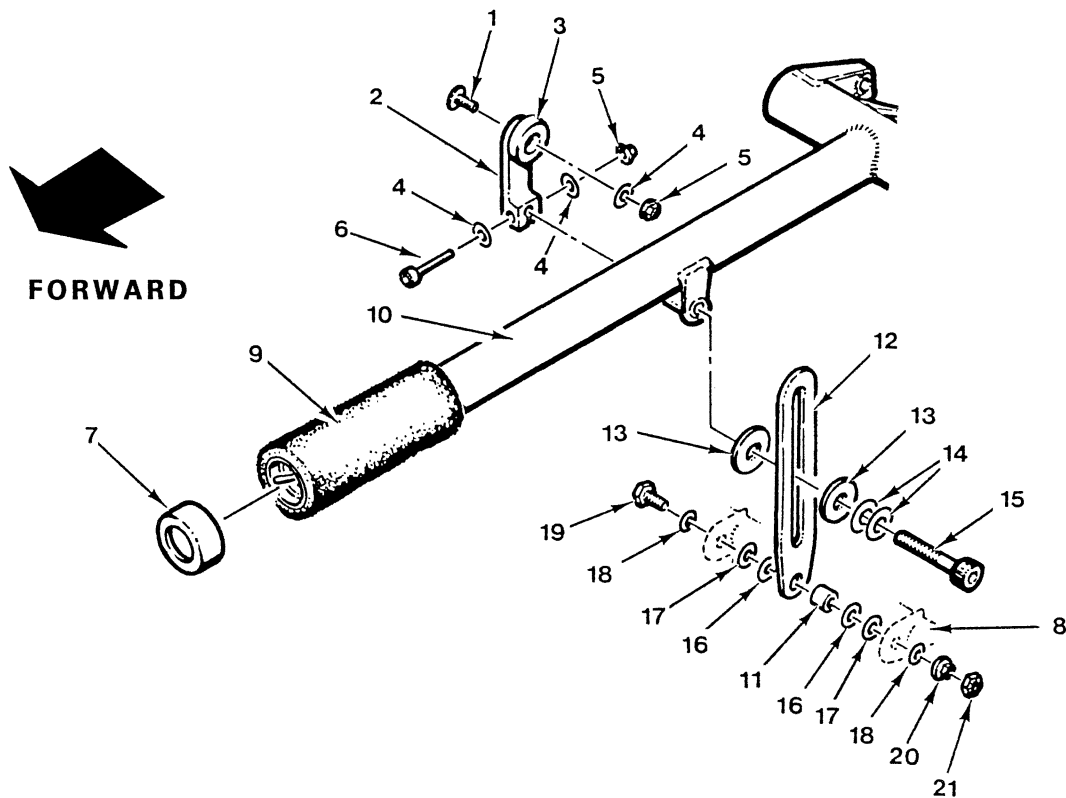

FIGURE 8-5 COLLECTIVE FRICTION ASSEMBLY
- a) Assemble A332-1 friction lever per Figure 8-5. The spring washers, item 14, should be assembled with their concave sides together. The two washers, item 13, are installed with the grey Teflon® coated surface against the A333-1 stop (item 12). The A332-1 lever is threaded onto the NAS1352-4-24P screw as the screw starts to protrude from the attachment fitting.
## 8.213 Pilot-Adjustable Collective Friction (see Figure 8-5)